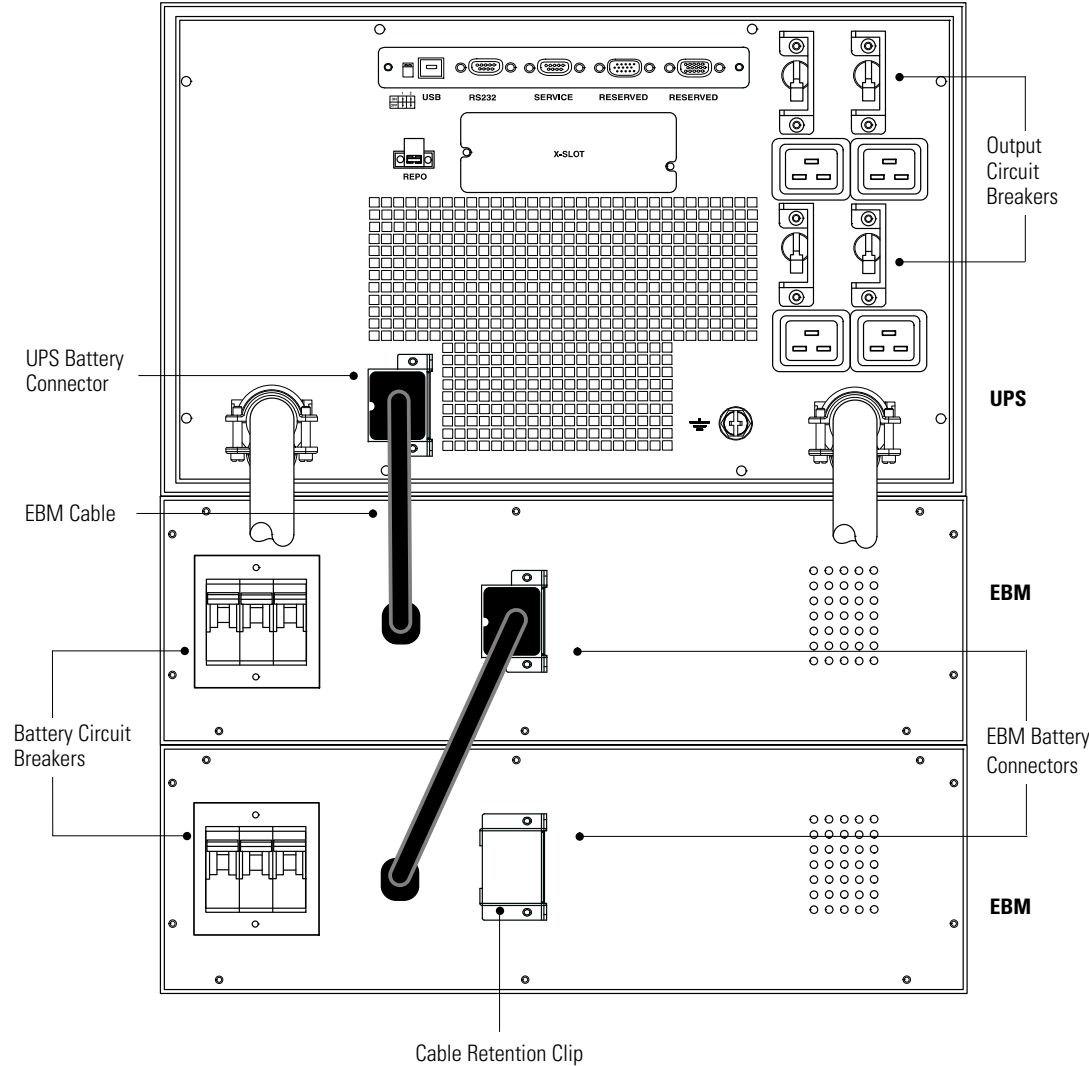

Figure 26. Typical EBM Installation
1. Verify that the output circuit breakers on the UPS rear panel are in the OFF (O) position (see Figure 26 on page 44).
1. Verify that all battery circuit breakers are in the OFF (O) position (see Figure 26).
4. Plug the EBM cable(s) into the battery connector(s) as shown in Figure 26. Up to four EBMs may be connected to the UPS.